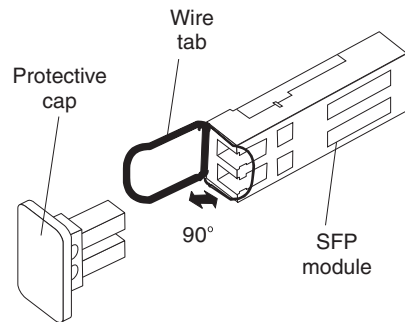

Figure 3-11. Unlocking the SFP module latch - wire variety
- For SFP modules that contain wire tabs, unlock the SFP module latch by pulling the wire latch as shown in Figure 3-11.